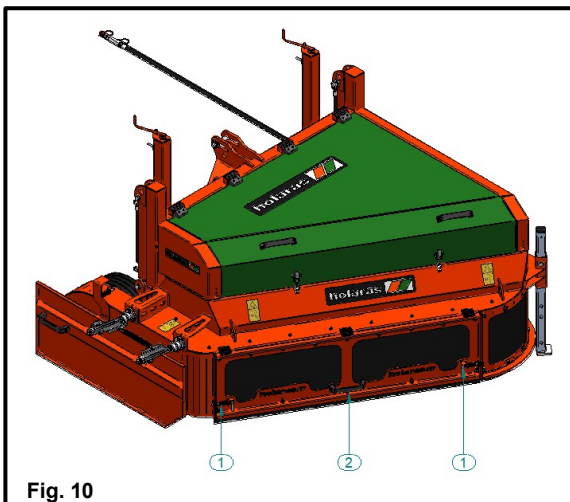

Fig. 10
- Loosen lock 1 in front of machine (see Fig. 10).